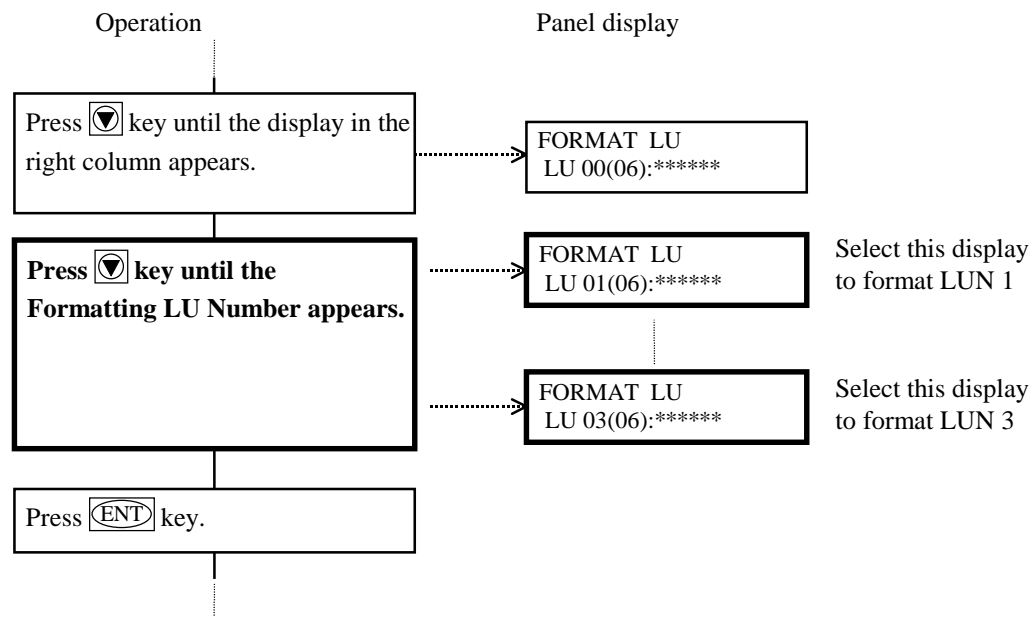

Figure 6.3.7-④ Selecting LUN 1-3 Operation
- After formatting completed for all the LU, go to⑤.
(i) The difference in the selecting operation is shown in Figure 6.3.7-④. (Operations shown in bold frames are added)